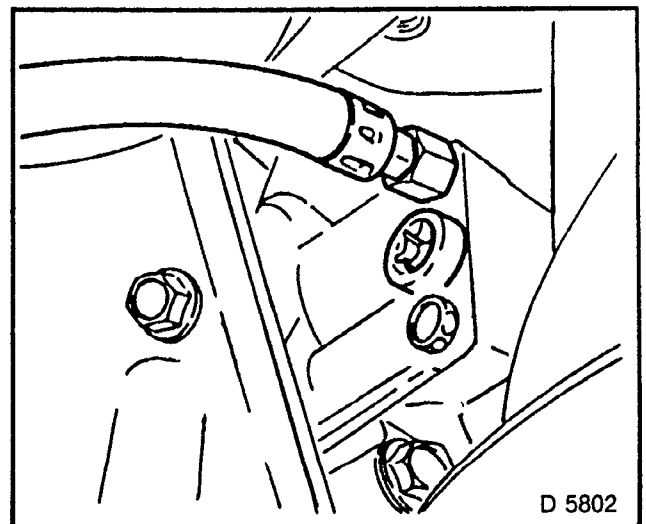

Fig. 227
4. Fluid circuit C2 with KM-498-4 and KM-498-A or KM-498-B, connection as in Fig. 227, however screw in adapter in Torx bolt bore hole (Torx insert T 55 or MKM-604-22) below connection C1.